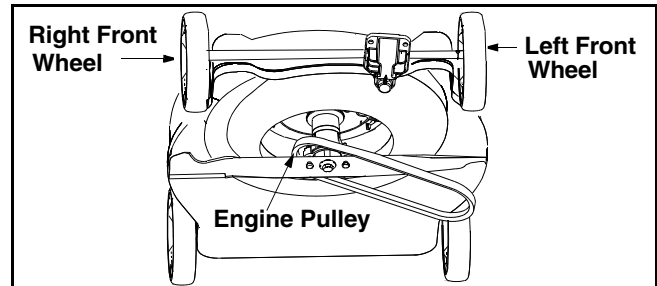

Figure 12
- Slide the belt off the engine pulley and around the blade. See Figure 12 .